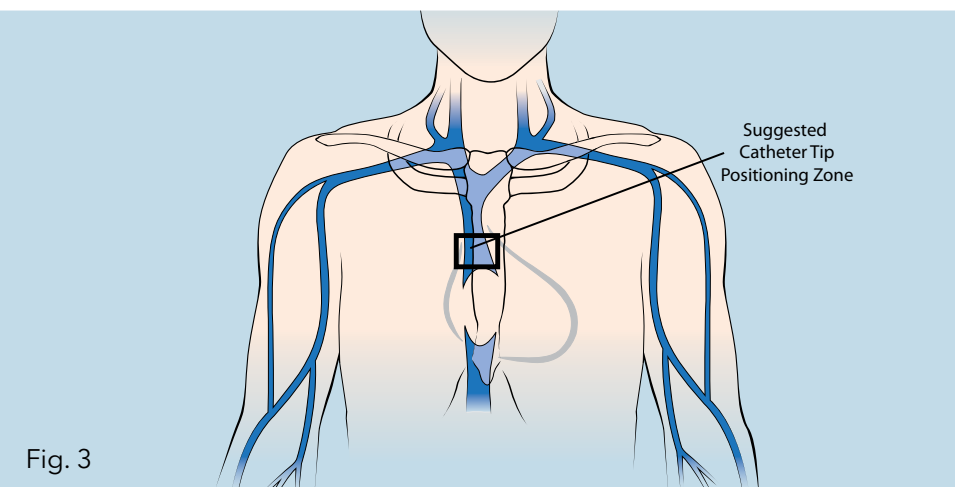

Fig. 3
- 2 Confirm proper catheter tip position radiographically prior to injection. The catheter tip should be located above the right atrium within the lower third of the SVC. (Fig. 3)